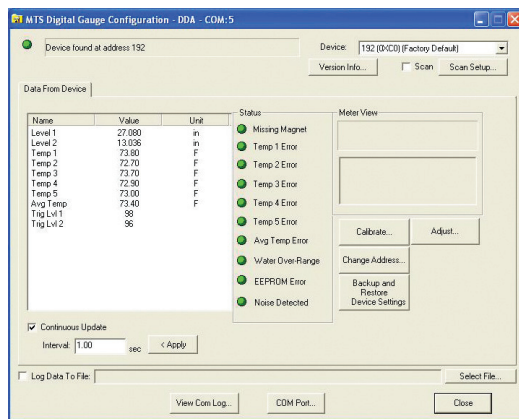

Figure 28. Data from device tab
Adjustments to the calibration and set up parameters of the transmitter can be performed using the M-Series Digital Setup Software package. The software can be run from any PC using a RS-485 to RS-232 converter (see Table 10 MTS part number references). In the 'MTS Digital Gauge Configuration - DDA -COM' window, you will see one tab labeled 'Data From Device' (see Figure 28). You will use this tab and its button selections to calibrate the transmitter and change setup parameters.
5. Click the 'Data From Device' tab, click the **Device:** pull-down and select the 'transmitter address', the factory default for DDA is **192** (see Figure 28).
Parameter settings and calibration is performed from within the Data From Device tab window (see Figure 28).
To adjust settings, click the **'Adjust'** button located in the *'Data From Device'* tab window (see Figure 28). The *'Adjust DDA Gain'* window displays different parameter settings. All transmitters will have the